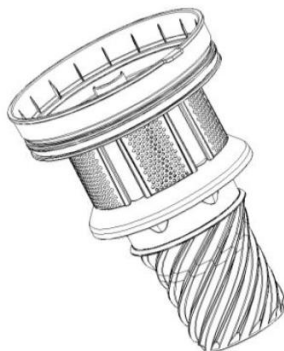

Fig.18
- 5) Fig.18 - wash cyclone assembly under a running tape with warm water.